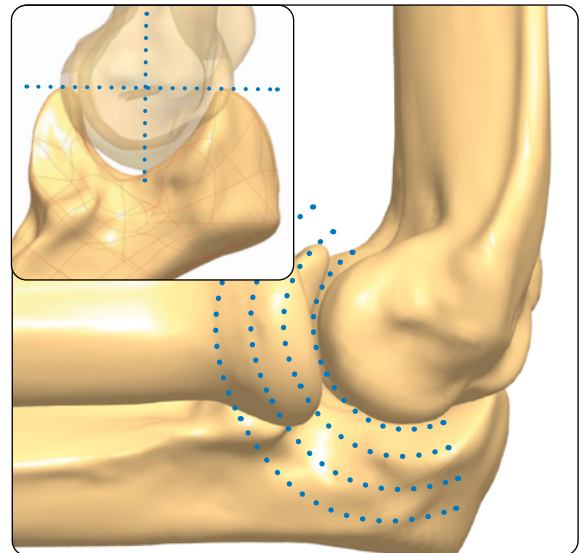

Fig. 8
7) To ensure that distraction between the Humerus and Ulna is carried out in a concentric way without any impingement, the axis of the Micrometric Distraction Mechanism should be perpendicular to the virtual line between the coronoid and olecranon (**Fig. 8**).